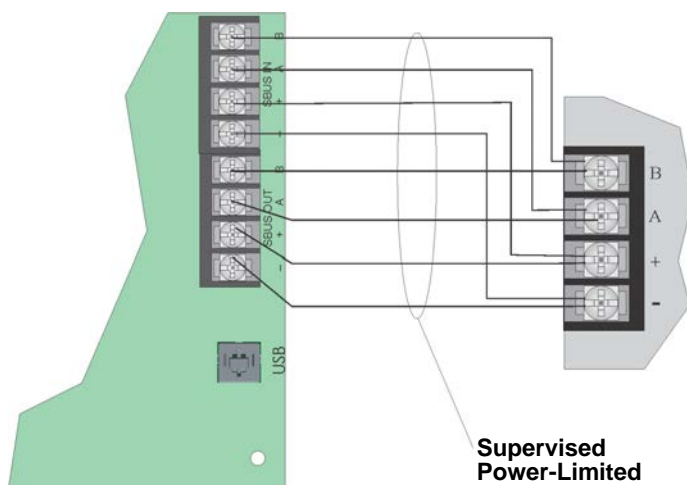
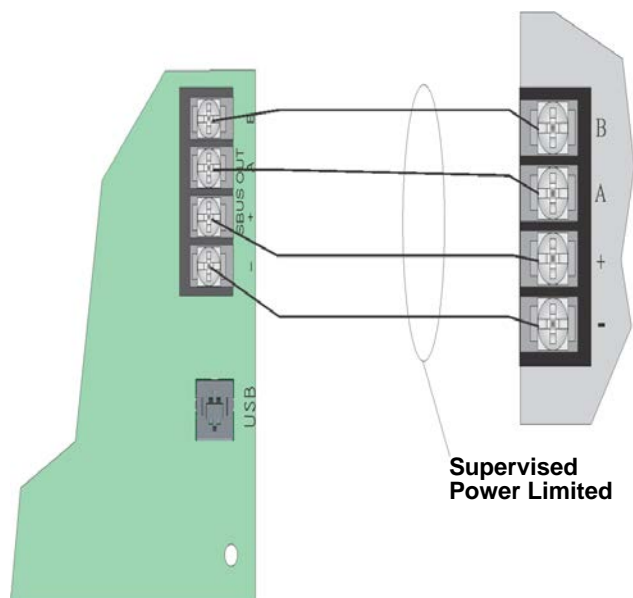

Figure 4.8 SBUS Class A Wiring
Figure 4.9 SBUS Class B Wiring
Figure 4.8 illustrates the Class A wiring configuration and Figure 4.9 illustrates the Class B configuration.
3. Wire the Annunciator board to the main control panel. See Figure 4.9.